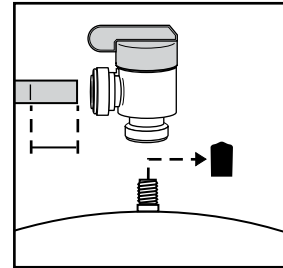

Figure 20
1. Remove the black protective cap to expose the 1/4-inch threaded opening at the top of the tank (Figure 20).
3. Locate the green tubing. Place a mark on the green tubing 3/4 inch from each end. Moisten one end of the green tubing with water and insert with a twisting motion into the free port of the tank valve until the 3/4-inch mark is flush with the quick-connect fitting (Figure 20).